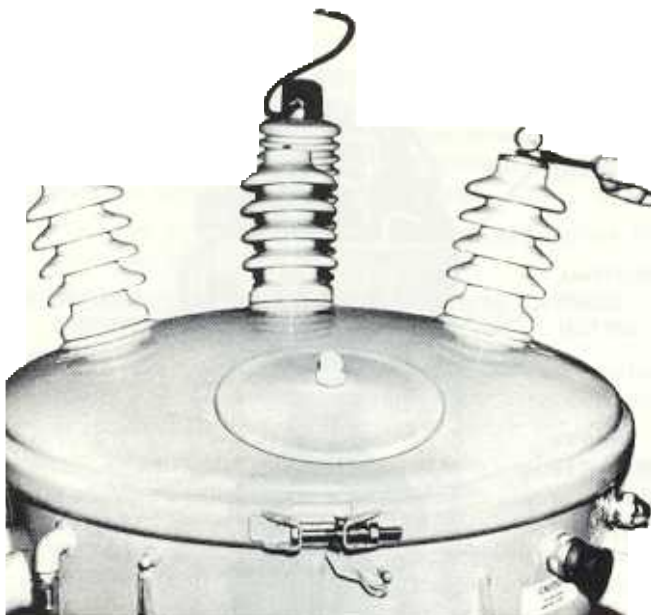

Figure 13
- A. For Auto-Boosters with voltage ratings of 12,000 volts and below, remove terminal caps from cover bushings by loosening setscrew and turning terminal counterclockwise (Figure 13).